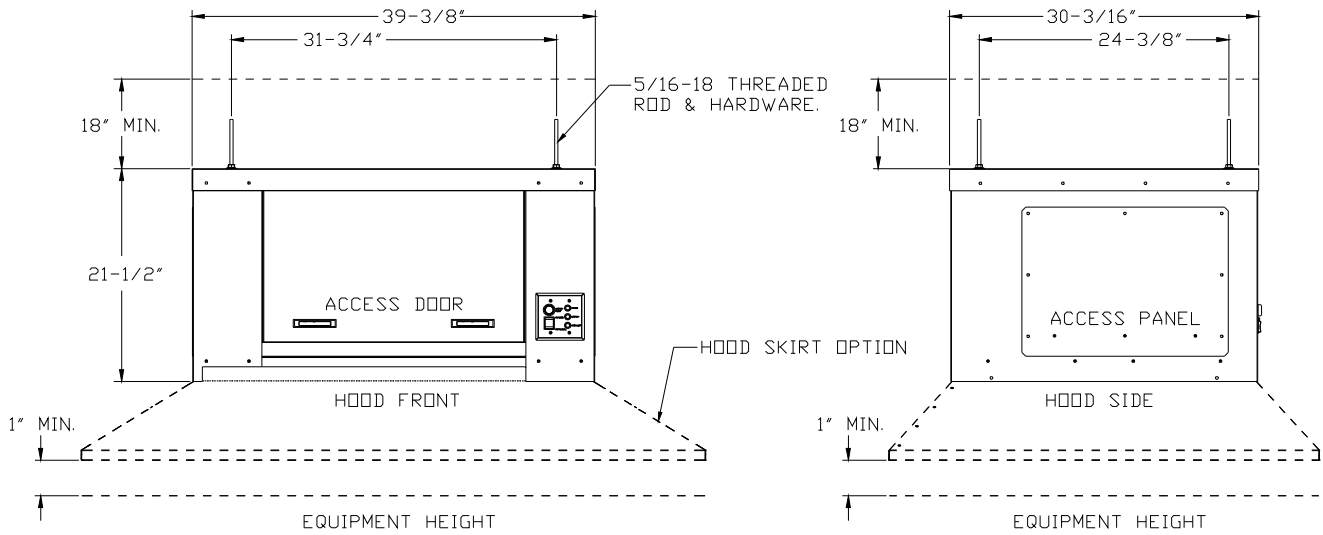

Figure 1
4. Use 5/16-18 threaded rod to hang the hood. Drill 3/8" holes in the structural support system or use Unistrut® to line up with the pre-punched holes on the hood. See **Figure 1** for details.
8. For further information detailing installation and dimensional data. **See Figure 1 & 1A.**